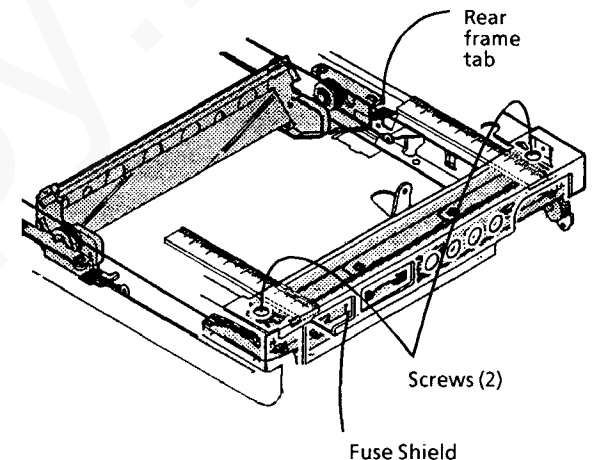

Figure 3 . Adjusting the Full Rate Carriage
4. Adjust the Full Rate Carriage (Figure 3).
- a. If step 3 was skipped, loosen the screws (2) that secure the Optics Cables to the bottom of the Full Rate Carriage.